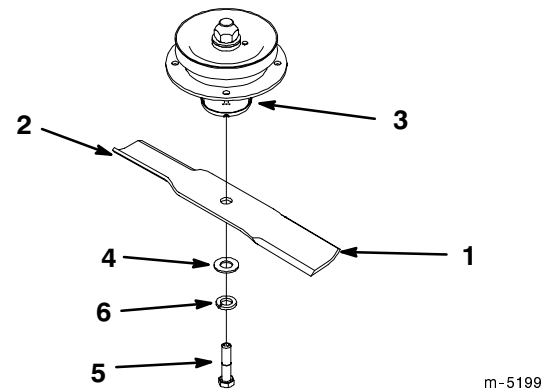
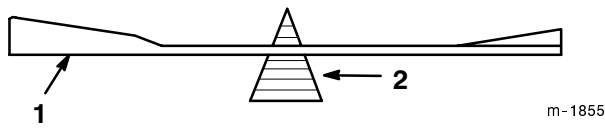

Figure 44
Figure 46
1. Hold the blade end using a rag or thickly-padded glove. Remove the blade bolt, washer, lock washer and blade from the spindle shaft (Fig. 44).
2. Check the balance of the blade by putting it on a blade balancer (Fig. 46). If the blade stays in a horizontal position, the blade is balanced and can be used. If the blade is not balanced, file some metal off the end of the sail area only (Fig. 44). Repeat this procedure until the blade is balanced.
1. Install the blade onto the spindle shaft (Fig. 44).
Important The sail part of the blade must be pointing upward, toward the inside of the mower to ensure proper cutting (Fig. 44).
2. Install the washer, lock washer and blade bolt (Fig. 44). Torque the blade bolt to 85-110 ft-lb (115-140 N•m).